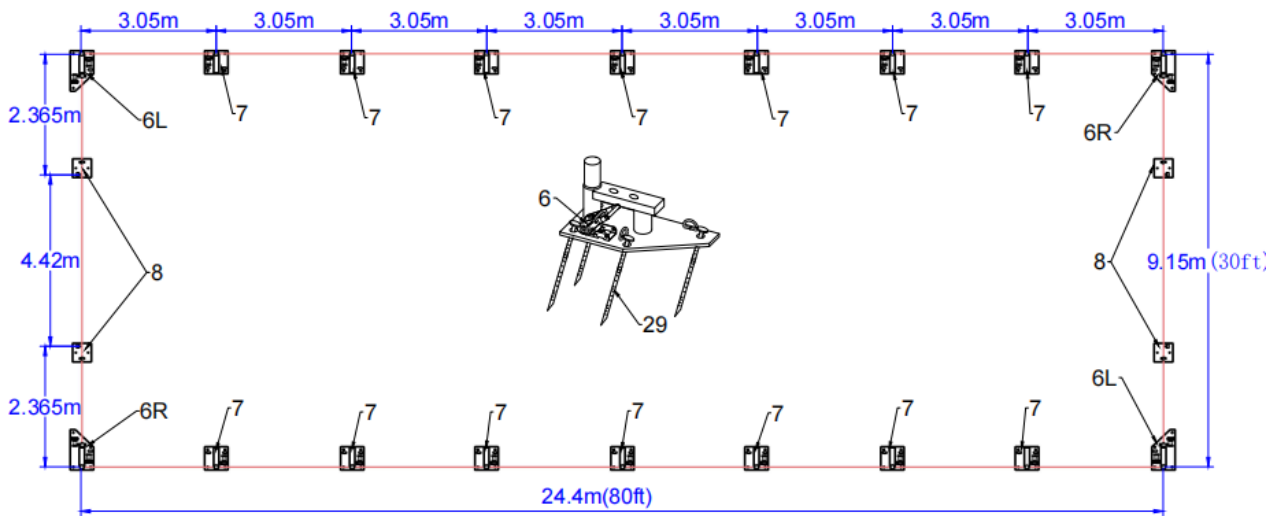

Figure 2: Foundation Placement
Please refer to the diagram (Figure 2) to place the baseplates.
2. As Figure 2 shows, each base plate is equipped with 4 pieces of stake peg. Mark the stake peg hold through the base plate by using the stake peg. Move the base plates away and the mark determines where the stake peg will be.